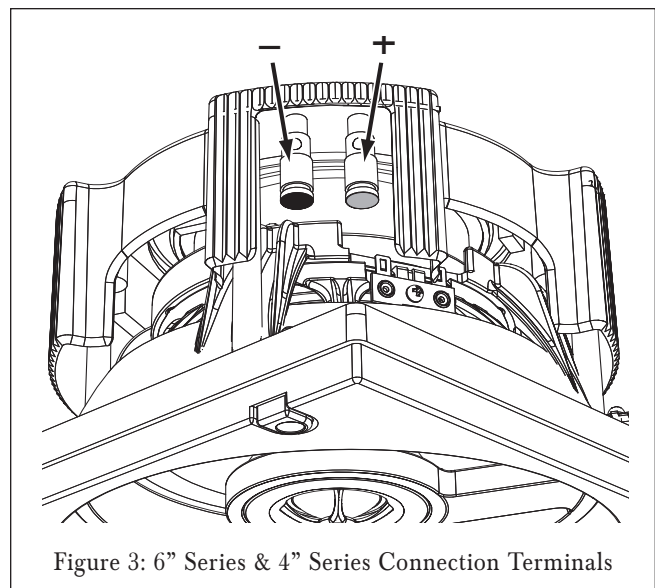

Figure 3: 6" Series & 4" Series Connection Terminals
4. The speaker's spring-loaded connector posts are located under the crossover cover (see *Figure 3*). Push the top of each connector post down to open the connector and insert the exposed wires into the holes in the posts.